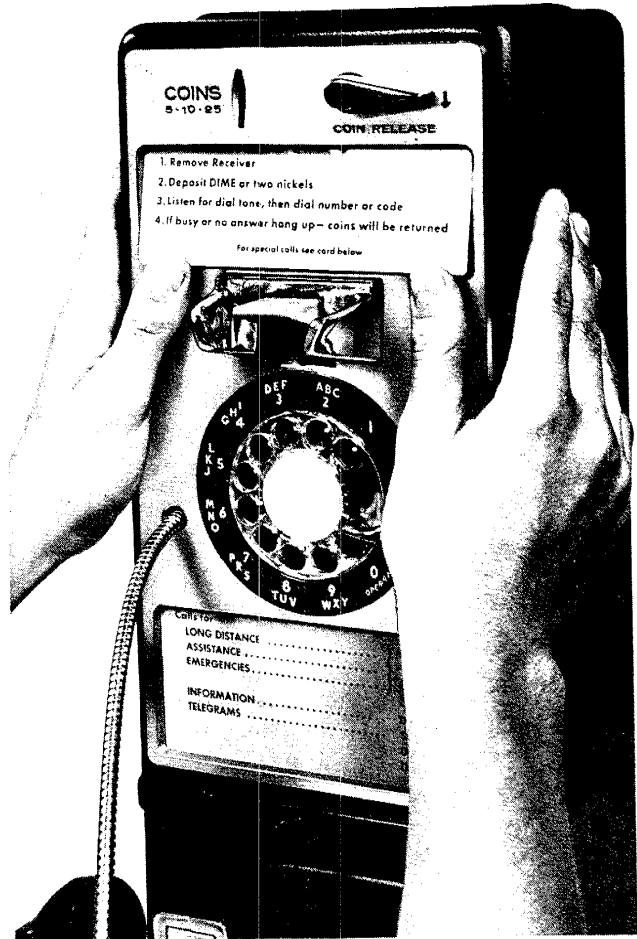

Fig. 12—Installing Instruction Card (Typical)
- Push up with fingers (Fig. 12)